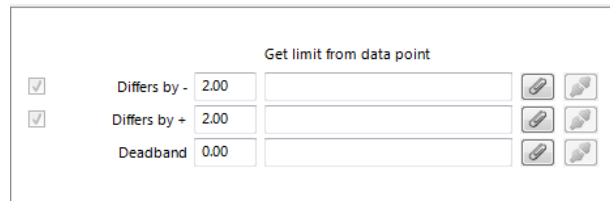

Figure 55: Condition for an Analog Feedback Alarm.
10. For an analog feedback condition fill in the alarm condition as shown in Figure 55. A feedback alarm is generated, if the setpoint **differs by** – and **differs by** + value from the feedback value. Enter a **Deadband** to account for hysteresis. Attach or detach data points for those limits. This can also be done by editing the property relations ‘lowLimit’, ‘highLimit’, and ‘deadband’, respectively (see Section 4.2.8).